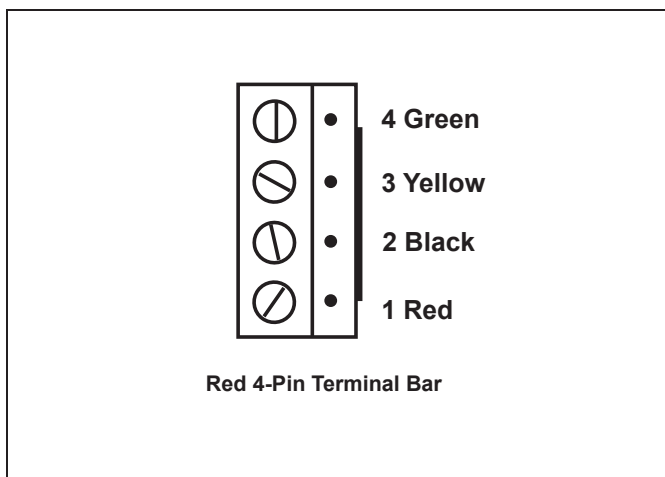

Figure 5. RS-485 Wiring
2. Connect four (4) separate wires to each terminal (Figure 5).